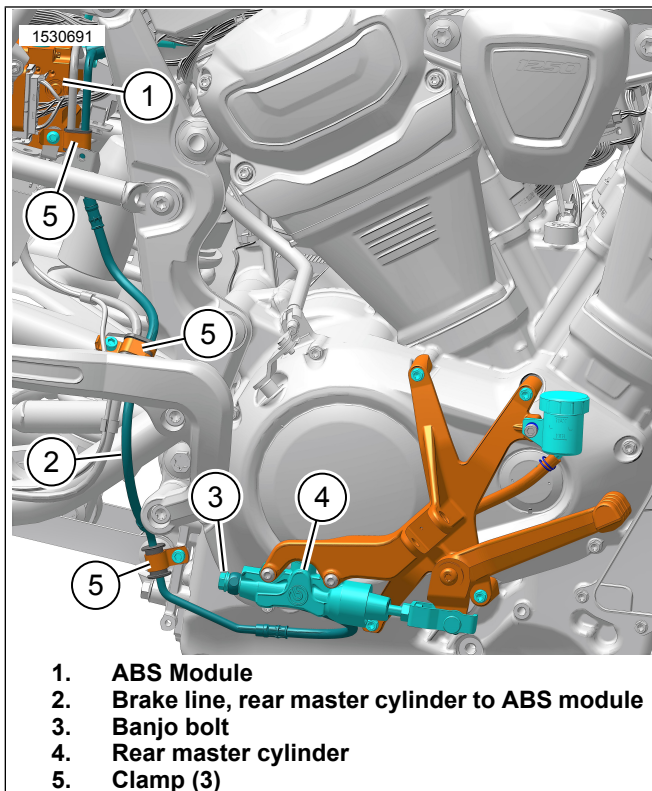
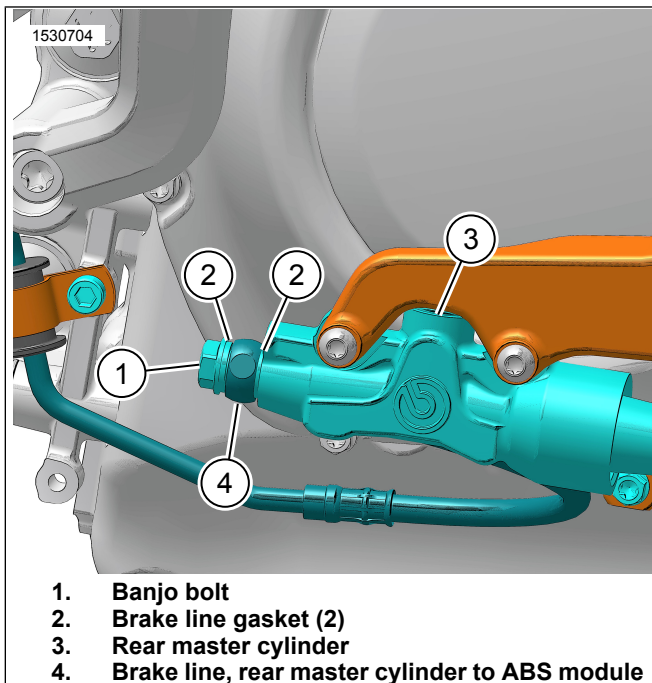

Figure 9. New Brake Line
Figure 10. Rear Master Cylinder
1. See Figure 9. Install OE brake switch to brake line (2). See service manual.
2. Route brake line (2) from rear master cylinder (4) to ABS module (1). See service manual.
3. Install brake line (2) at ABS module. Loosely install banjo bolt with **new** brake line gaskets. See service manual.
4. Loosely install clamps (5) to brake line (2). See service manual.
5. See Figure 10. Install brake line (2) at rear master cylinder (3). Loosely install banjo bolt (1) with **new** brake line gaskets (2).
6. See Figure 9. Tighten brake line clamps (5). See service manual.